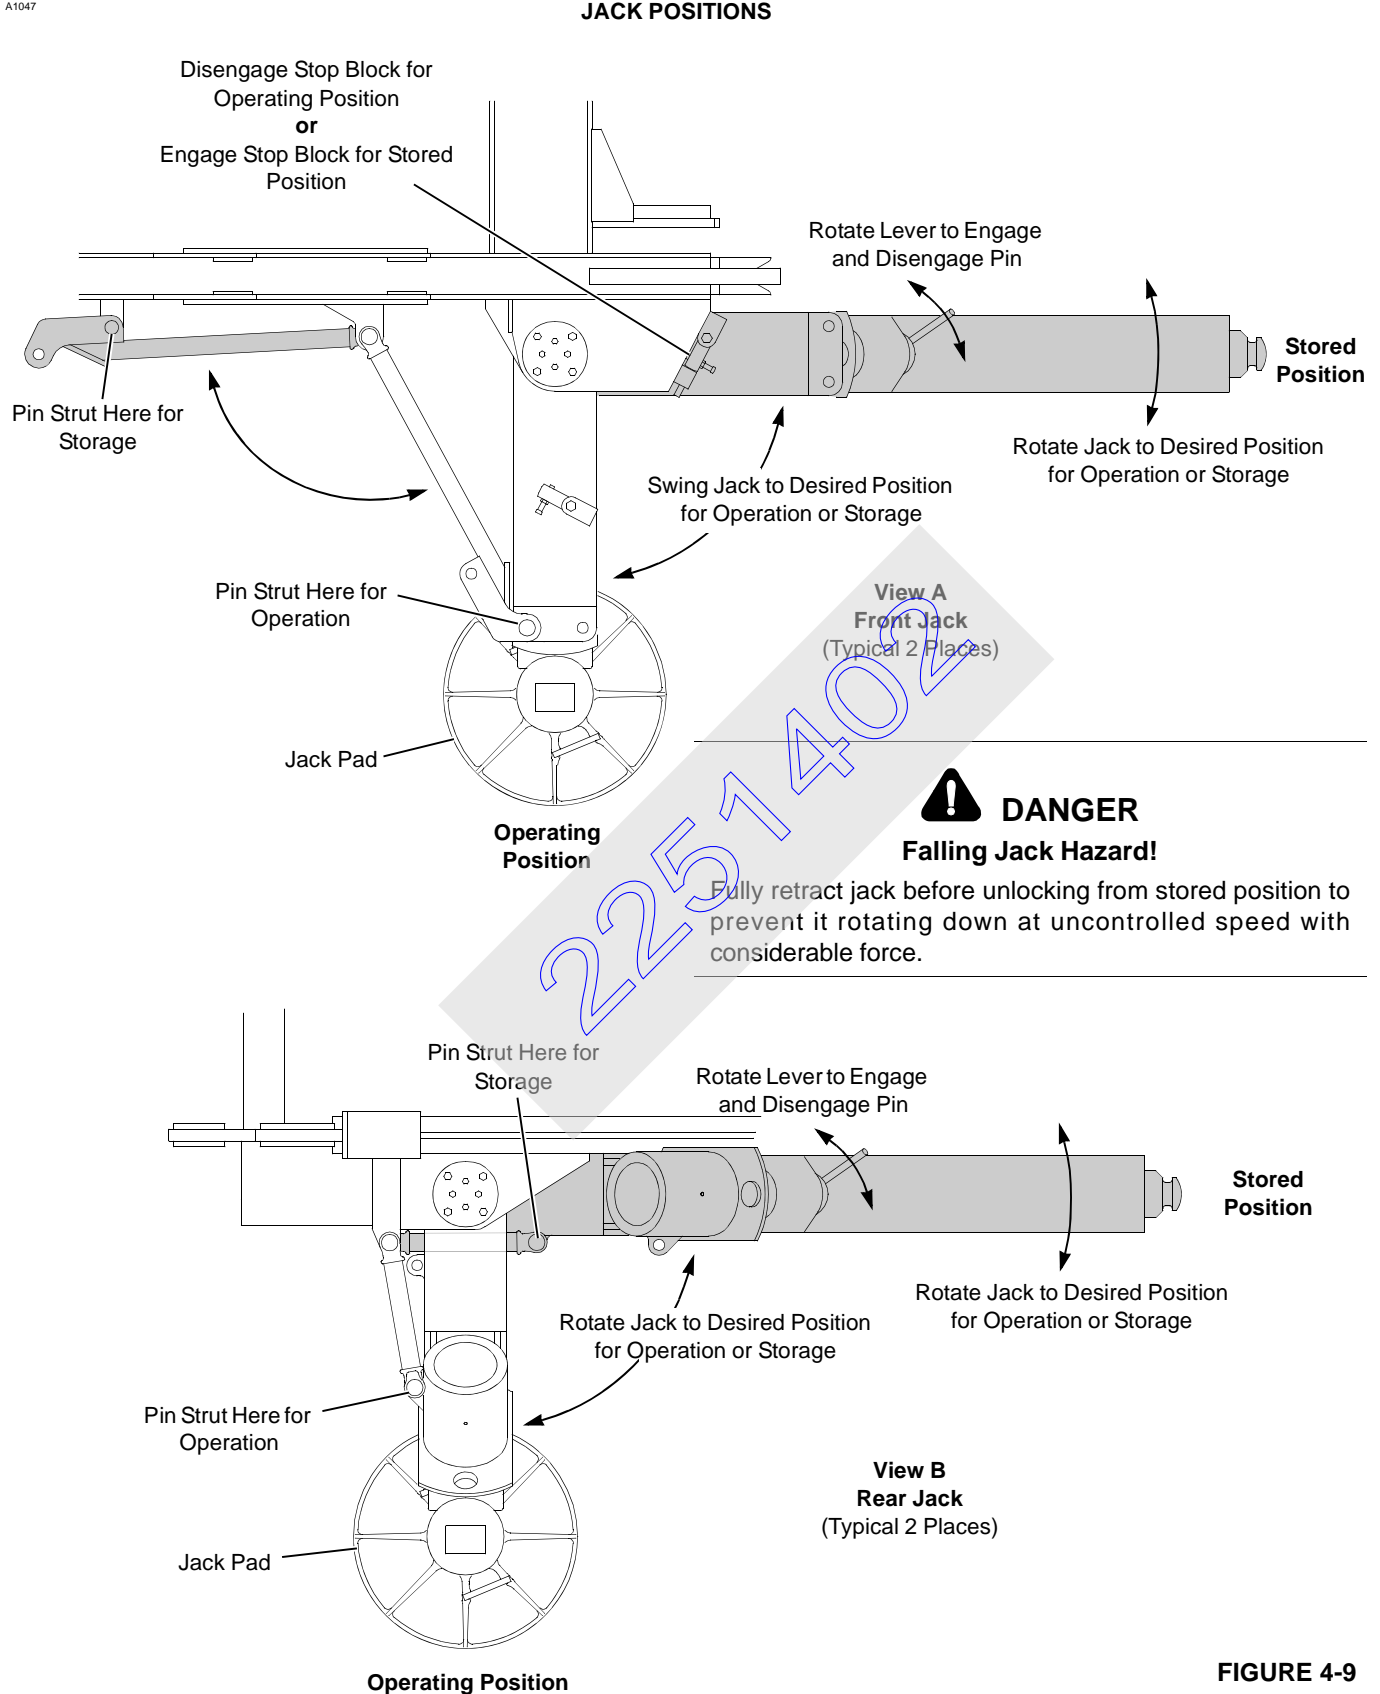

FIGURE 4-9
1. Rotate four jacks to operating position (Figure 4-9, Views A and B) and pin struts to jacks.